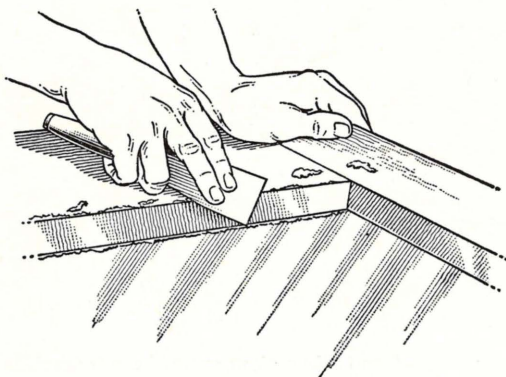

Fig. 490—The putty knife is used to make a neat, even bevel with the putty.
3. Apply the putty with a putty knife. Force the putty into all of the cracks, and bevel it off neatly. The putty should not extend out over the glass beyond the wood on the inside of the sash. (See Fig. 490.)
2. Remove the broken glass and clean out the dried putty with the wood chisel or the putty knife. Save the pieces of glass which may be large enough for another job. (See Fig. 490.)